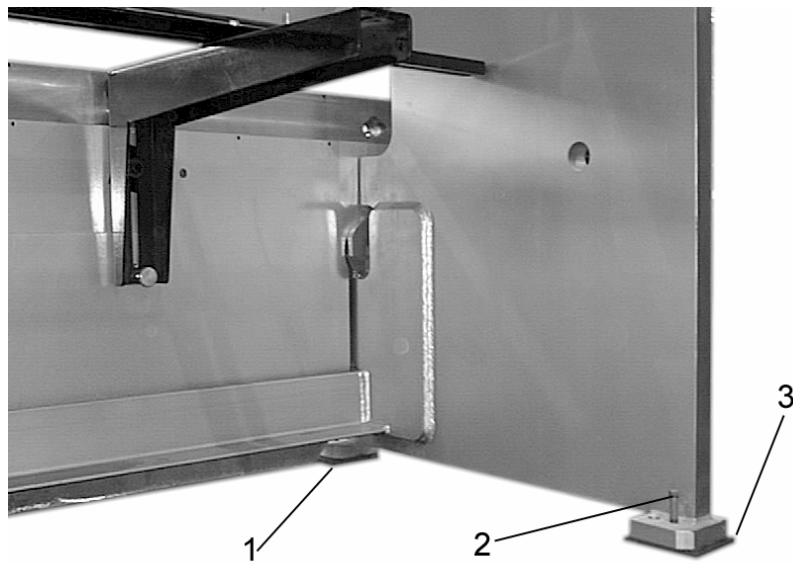

Figure 2: Leveling Plate /Foot Detail
2. Position the 1/2" thick pad under each of the rear feet (*see Figure 2 Item 3*).